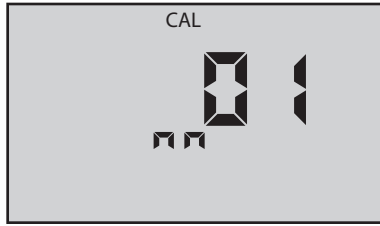

Figure 14
7. Press  $\frac{\text{CAL}}{\text{MCLR}}$  to accept the change (new month), (see Figure 14, pg. 40).